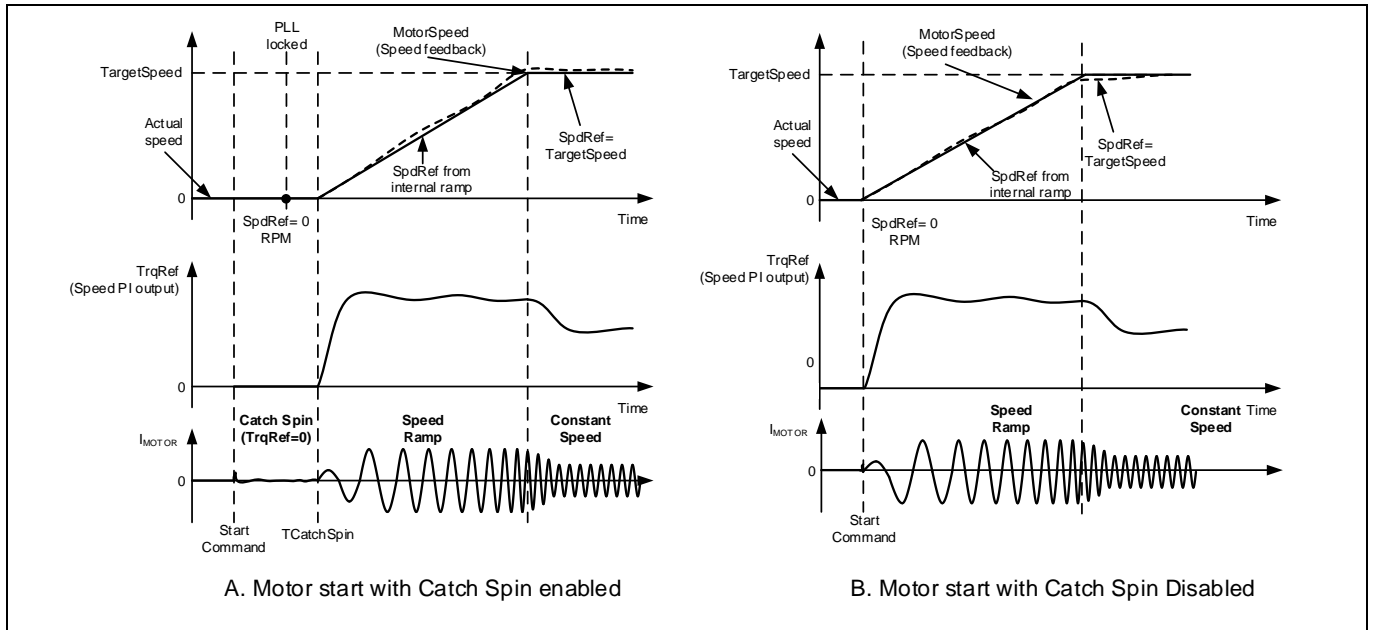

Figure 16 Zero Speed Catch Spin - Motor start with/without catch spin
If the motor is stationary, then the catch spin sequence is termed as ‘Zero Speed Catch Spin’. Figure 16(A) shows an example for ‘Zero Speed Catch Spin’. In this example, at the start command, the motor is stationary. After the start command, ‘Zero Speed Catch Spin’ sequence begins. During the catch spin sequence, no motoring current is injected. After the catch spin time has elapsed, the motor speed at that instance (which is 0 RPM) becomes initial speed reference and starting point for speed ramp reference. The motor continues to accelerate, following the speed ramp reference to reach the set target speed.
If catch spin is disabled, normal speed control starts immediately after the start command, without waiting for PLL to be locked. As shown in Figure 16 (B), after the start command, motoring current is injected directly as there is no catch spin sequence. The motor starts accelerating, following the speed ramp reference to reach the set target speed.